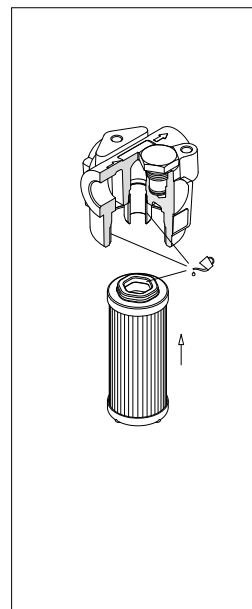

fig. 7
- (Fig. 7) Lubricate with the operating fluid the filter element Hex Ring, the housing tap and cavity, then fit the filter element on the tap. Pay attention not to damage the Hex Ring seal